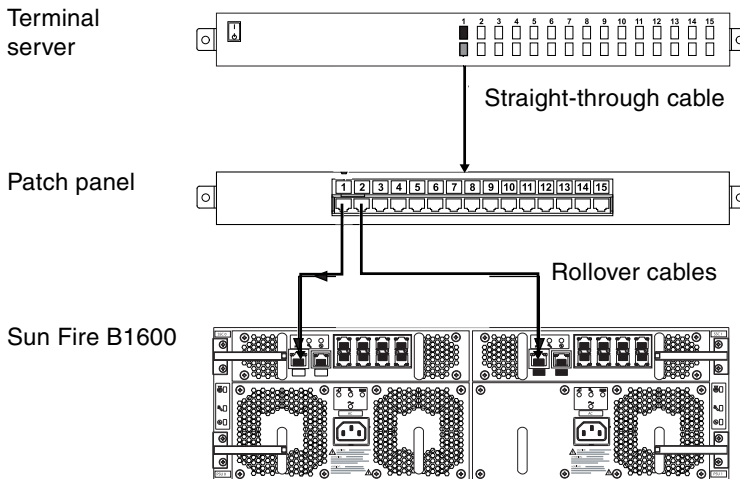

FIGURE 6-2 Patch Panel Connections to a Terminal Server
- Connect a rollover cable to a patch panel and use a straight-through patch cable to connect the patch panel to the Sun Fire B1600 blade system chassis (see FIGURE 6-2).